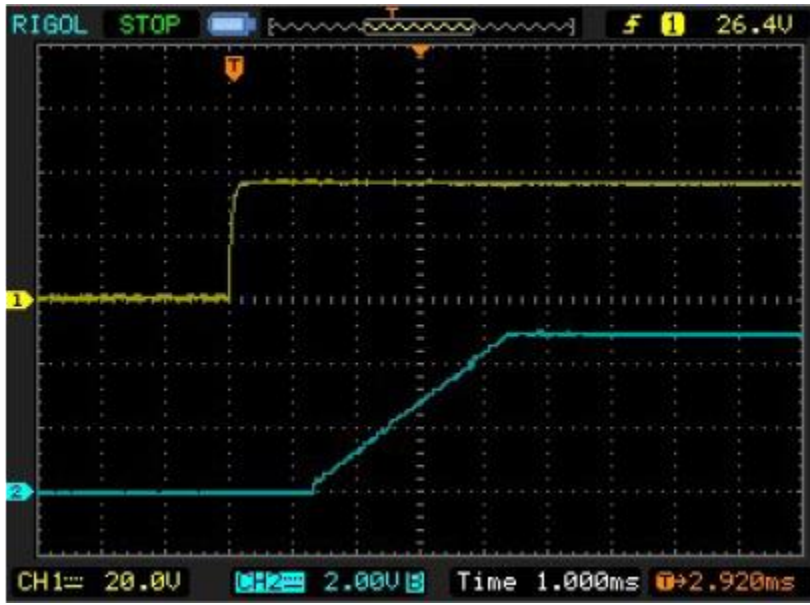

Figure 3. Soft-start feature.
The MAXREFDES98# is set to a soft-start time to 3.2ms. A soft-start reduces the inrush current from the PSE. **Figure 3** shows the soft-start waveform. The yellow trace is the enable signal (PG) from the MAX5969A, and the blue trace is the output voltage from the MAX17503.